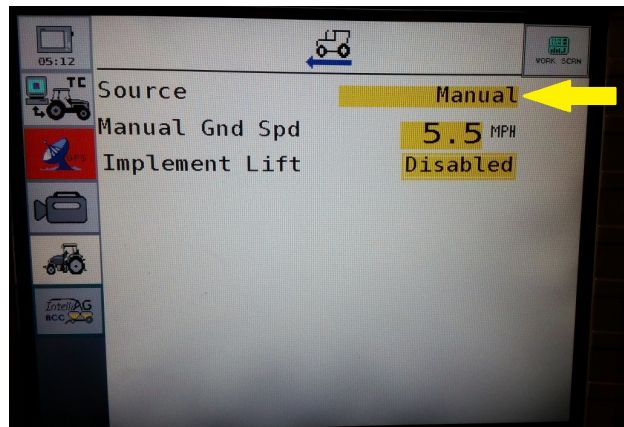

Figure 33
Step 4. Change digital frequency to manual (Figure 33)